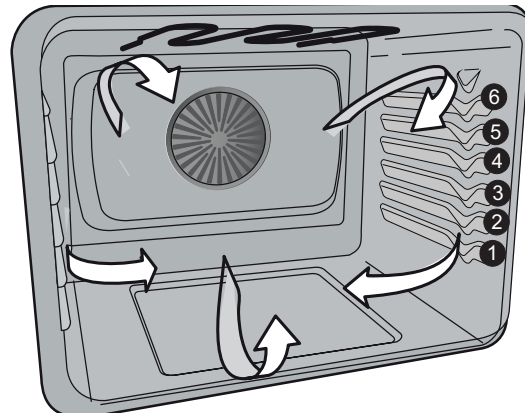

Figure 10: Convection fan
2. Once F (or C) appears in the display, press **Self Clean** to toggle between Fahrenheit and Celsius temperature display modes (Figure 10).
- When baking cakes using two oven racks place bakeware in positions 3 and 5 and place bakeware as shown in Figure 10.